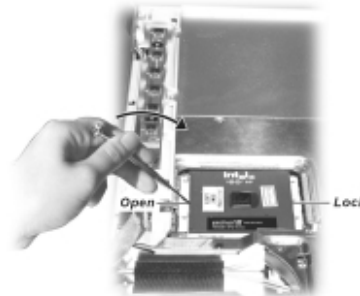

Figure 2-6
3. Insert a minus screwdriver 101 (JIS standard) into the "OPEN" hole of the socket, and push the screwdriver toward the CPU to free the CPU. Now you can take out the CPU from the socket. (Figure 2-6)